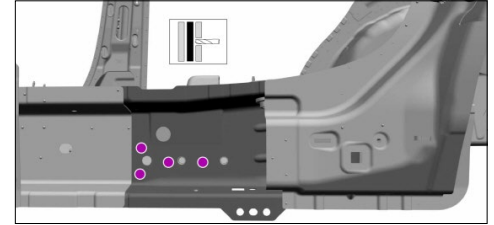

Figure 2
10. Remove the welds, using the spot-weld drill bit (**Figures 2 - 4**).